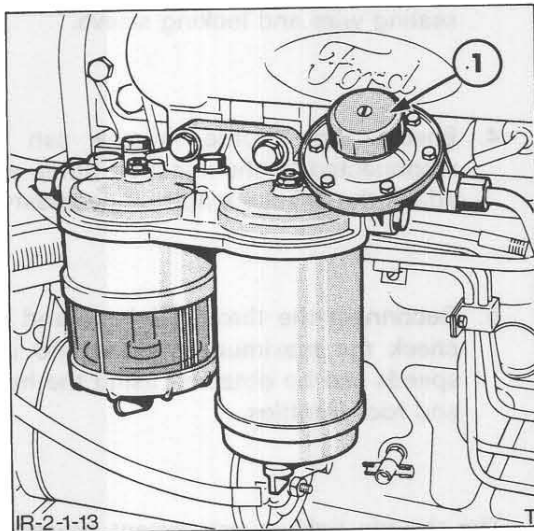

Figure 13
2. Operate the hand primer, Figure 13, on the fuel filter/sediment separator to pump fuel into the filter assembly. Continue to pump the hand primer until resistance is felt, indicating that the system is pressurised (primed).